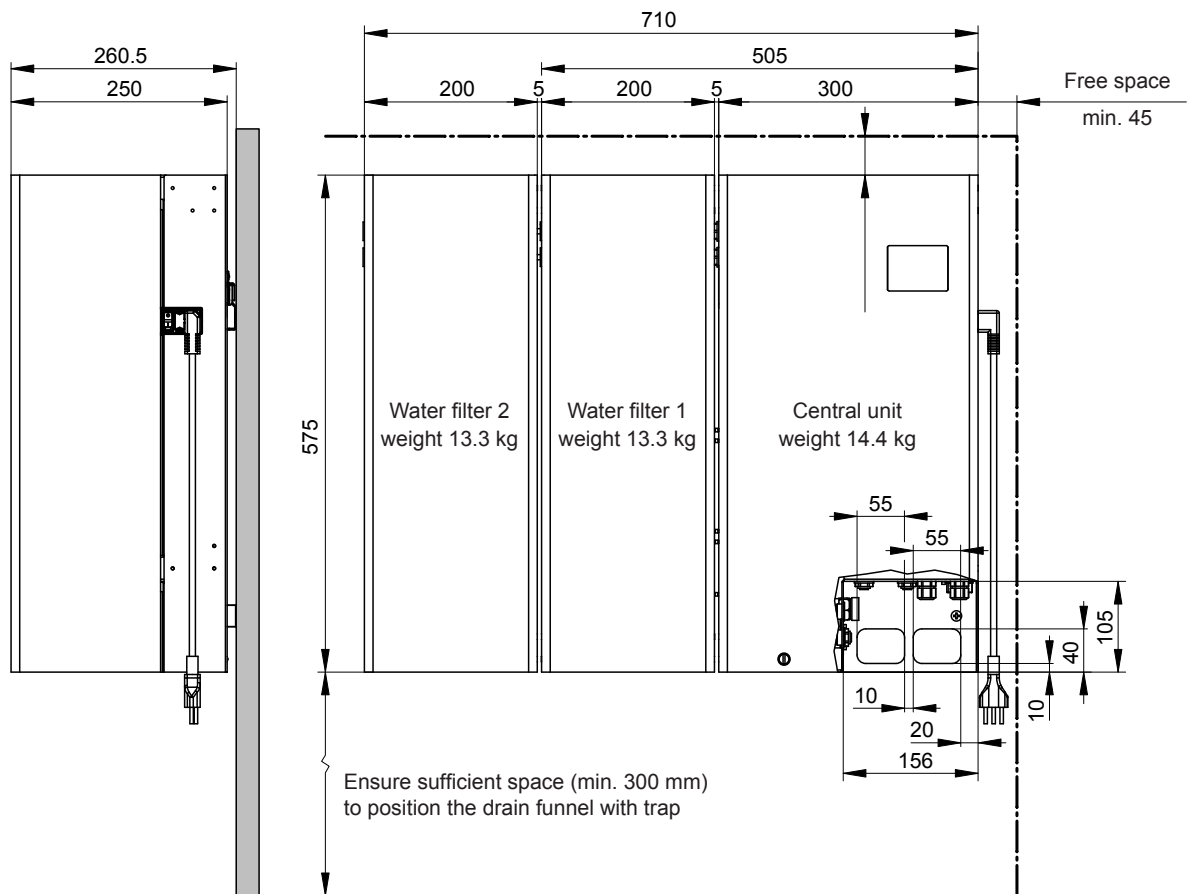

Fig. 8: Central unit and water filter dimensions (dimensions in mm)
- There must be a sufficiently large free wall space to install the central unit and the water filter(s) (see Fig. 8).
Important: The wall that the central unit and the water filter(s) will be installed on must have a sufficient load-bearing capacity (see weight information in Fig. 8) and be suitable for the attachment.